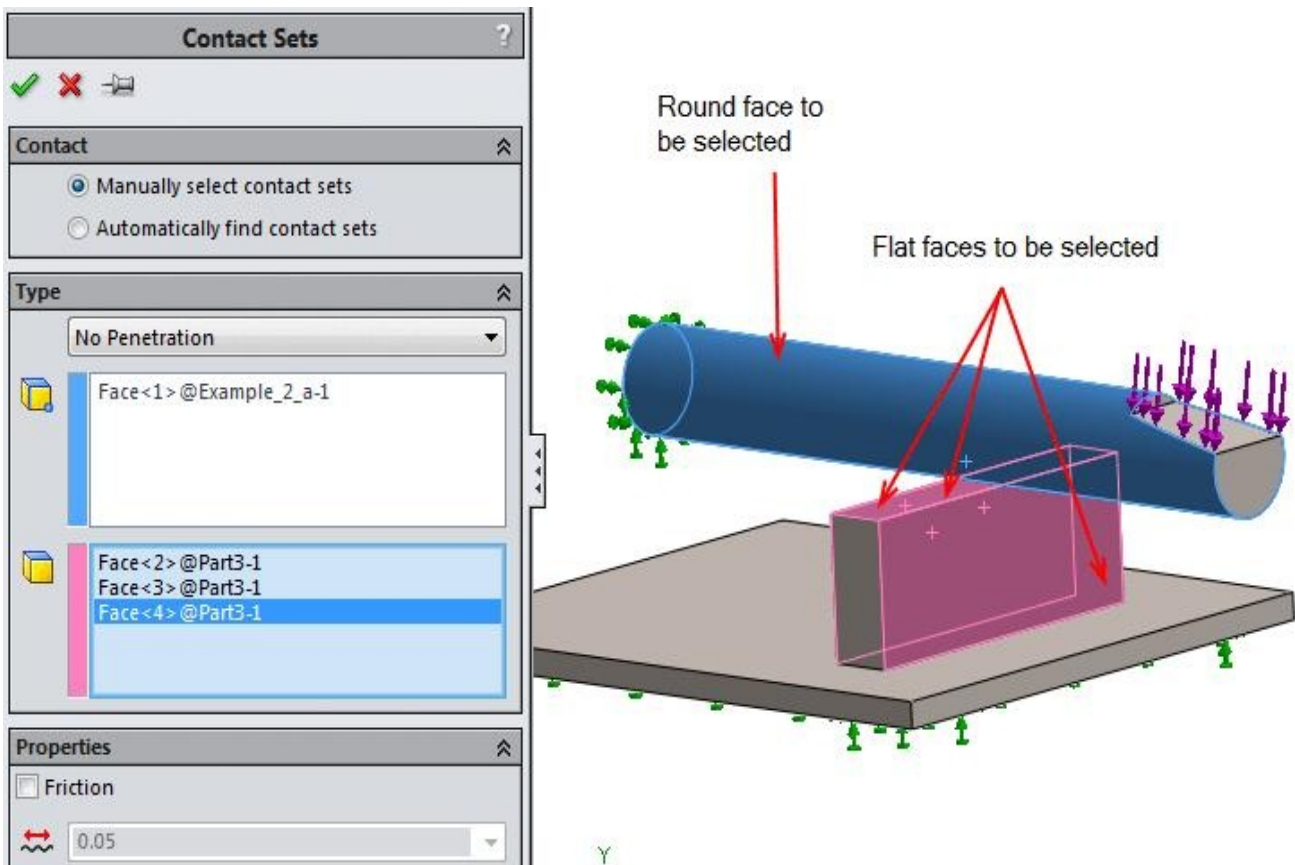

Figure-22. Faces selected for contact sets
- Click in the pink box in the **Type** rollout and select the flat faces of the block; refer to Figure-22.